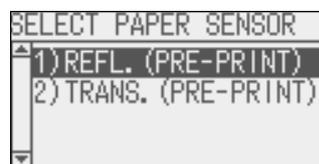

Figure 1. Select Sensor
2. Press the pause key once, then press and hold the pause key until the display asks to select the reflective or transmissive sensor (Threshold Setting Mode). Choose the correct sensor for the loaded media, then press the enter key. **Figure 1.**